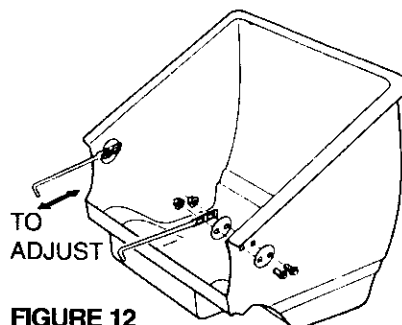

FIGURE 12
1. See Fig. 12: Loosen catcher hook, nuts and bolts. Remove front nut and bolt from each catcher hook. Then raise catcher hooks and fasten both hooks with the bolts. Leave bolts loose until catcher is adjusted for proper clearance from the reel blades.